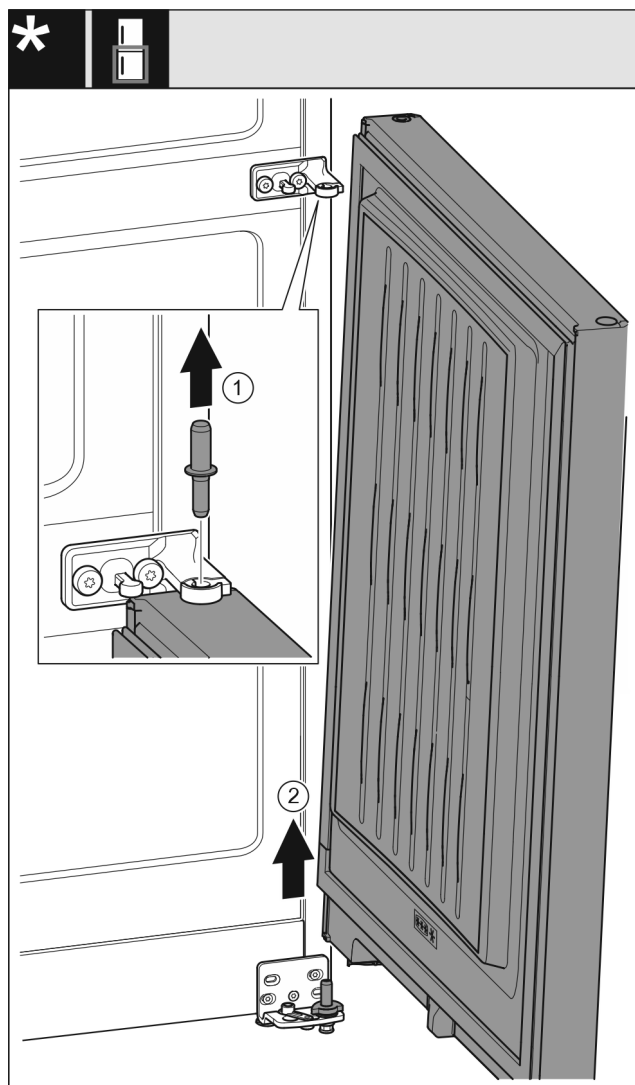

Fig. 9
- Pull out the bolts upward. Fig. 9 (1)
- Swing the door out, pull it upward and set it aside. Fig. 9 (2)